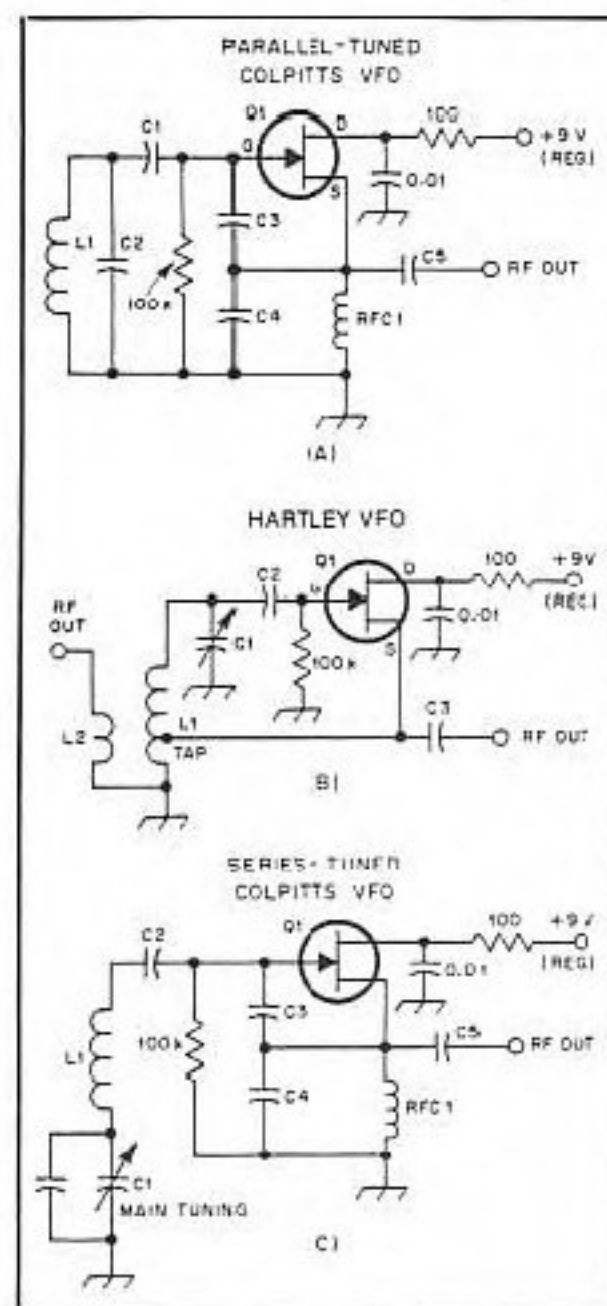

Fig. 4 — Examples of coil-capacitor oscillators (see text).
Three types of LC oscillators are shown in Fig. 4. The first example (A) is probably the most common of the three in ham equipment. Since C2 and L1 are in parallel, this is called a parallel-tuned oscillator. C3 and C4 provide the path for our feedback energy. In LC oscillators the value of C3 and C4 are approximately the same. A
Fig. 4—Mechanical details for a homemade disc tuning capacitor. A tension spring ensures mechanical stability of the rotor portion of the variable capacitor. Side brackets also help to keep the unit mechanically rigid. The detail at B shows how the stator disc is etched on PC board material.